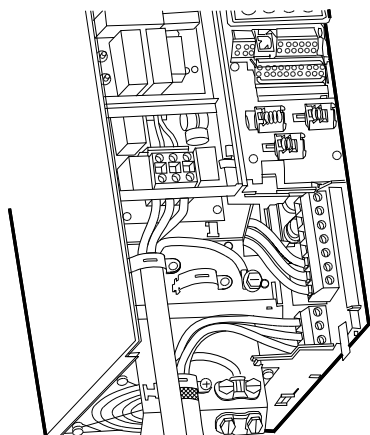

Fig. 16 Mains and motor connection, B3
1. Connect the ground conductor to terminal 95 (PE). See figs 16 and 17.
See figs 16 and 17.